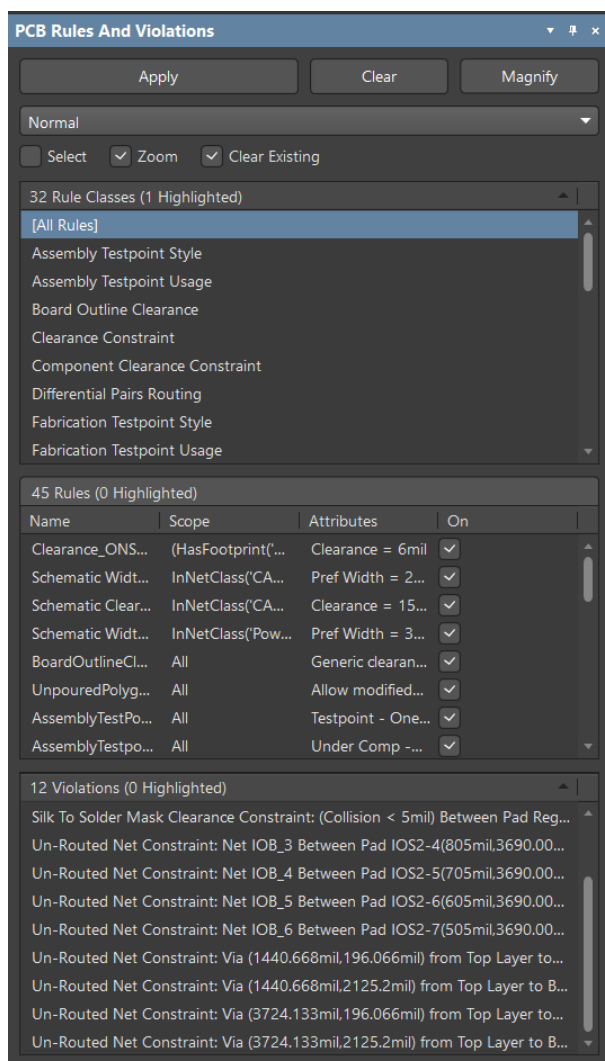

Figure 7. PCB Rules and Violations panel
18. This would open the *PCB Rules and Violations* panel. Dock this panel to the left or right of the workspace as shown in Figure 7.